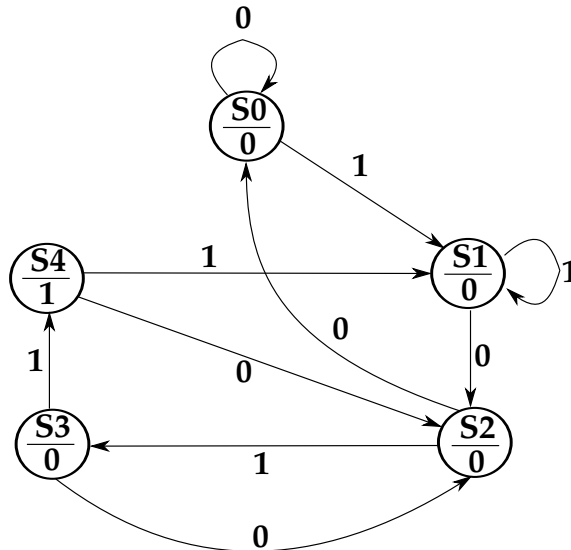

Figure 2: Moore State Machine for Detecting a Sequence of '1011'
Following is the behaviour description of the sequencer for a **Moore** style implementation and the state diagram is shown in fig. 2:
1. **As the FSMs shown in Fig. 1 and Fig. 2, Mealy style uses less states compare with the Moore style. Could you explain why?**